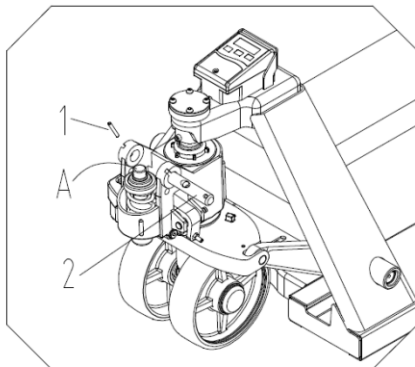

Fig. 1
1. Pull out the spring pin 1 first, and then pull out the pin roll 2. *(Fig. 1)*